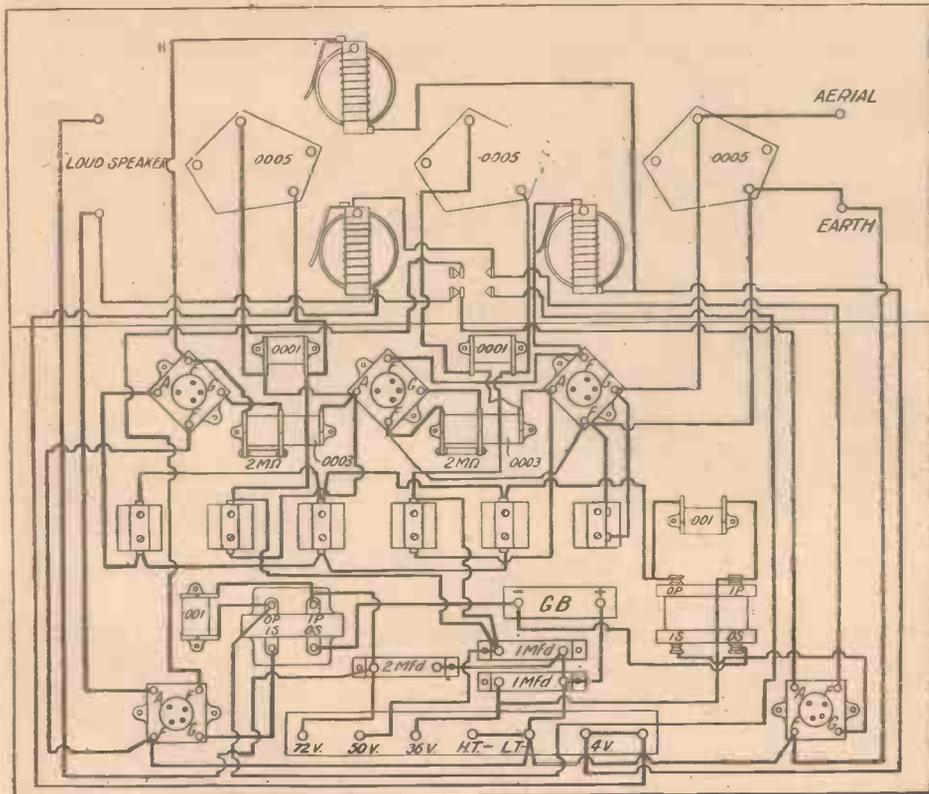

Fig. 6.—Wiring Diagram of the "All-Europe" Loud-speaker Set.
Fig. 6 shows the wiring of the receiver, and it is of great importance that the connections of the high-frequency portion of the receiver be made strictly as shown. No. 22-gauge tinned-copper wire is used throughout, and Systoflex sleeving is used for insulation. Special points to be noted in connection with the wiring are as follows:
(3) The layout of the high-frequency portion of the receiver is designed so as to ensure that the wiring shall be as short and direct as possible. The layout of the components as shown in Fig. 6 should therefore be strictly adhered to.